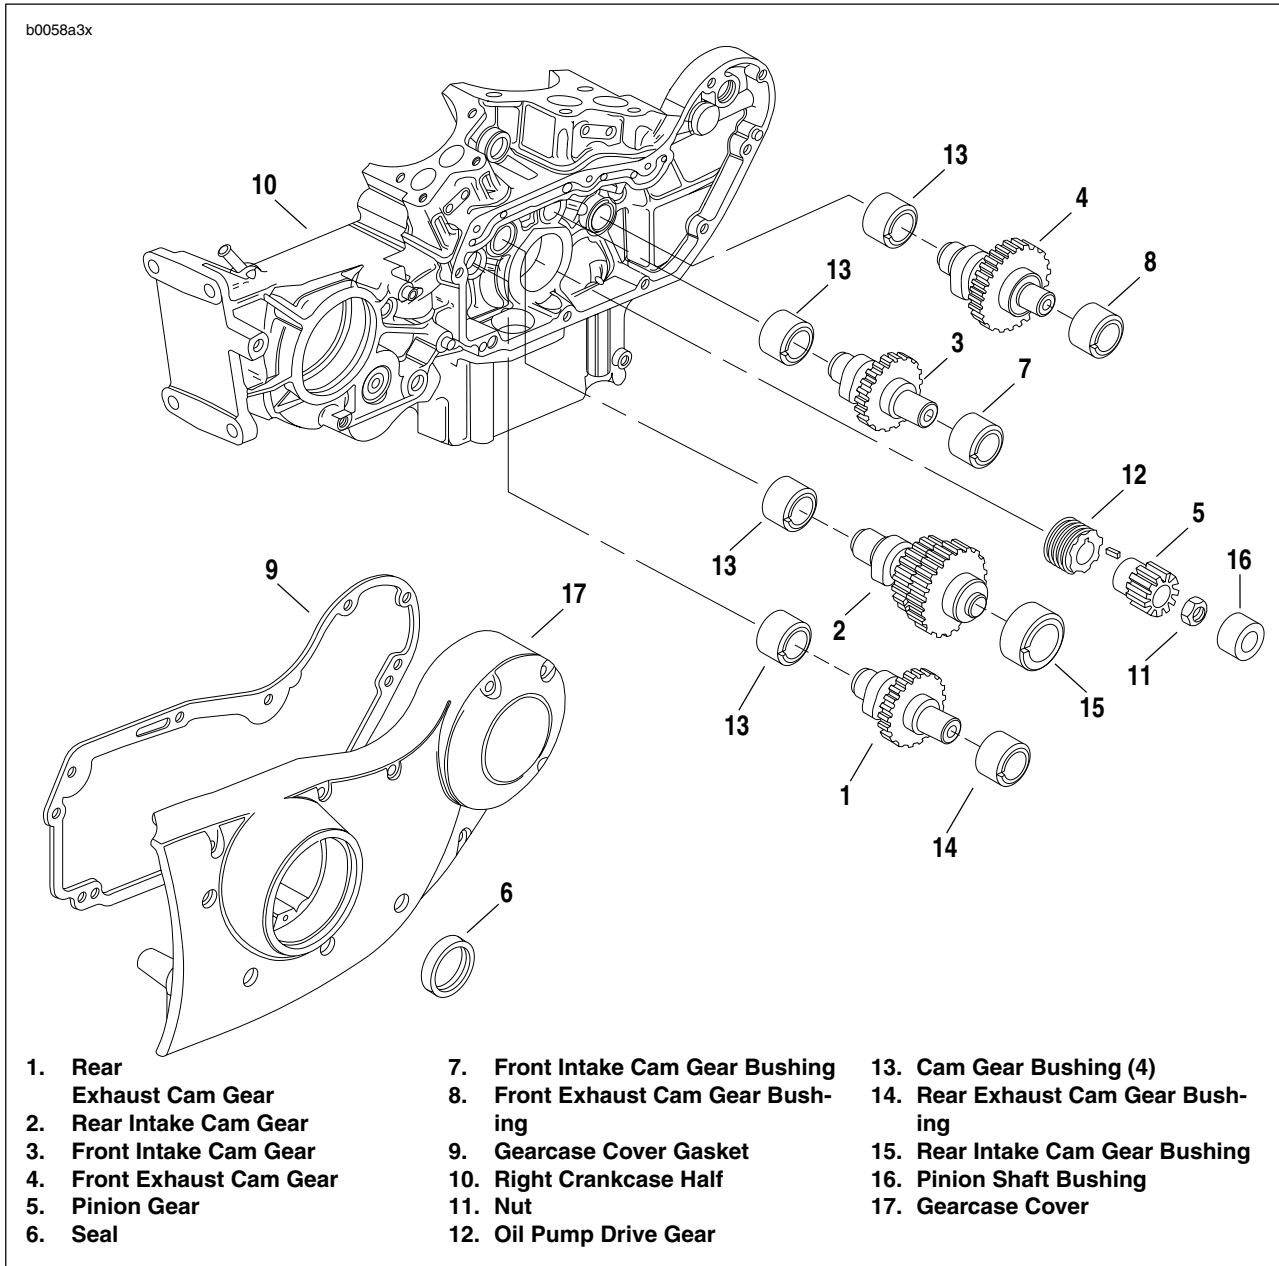

Figure 3-62. Gearcase and Valve Train Components
1. See Figure 3-62. Thoroughly clean area around gearcase cover (17) and lifters. Blow loose dirt from crankcase with compressed air.
7. Place a pan under gearcase to collect oil. Remove cover screws. Carefully remove gearcase cover. Discard old gasket (9).
1. See Figure 3-62. Bushings (7, 8, 13, 14, 15 and 16) are press fit in gearcase cover (17) and crankcase. Inspect each bushing against its corresponding cam gear shaft or pinion gear shaft. See Table 3-10.
1. See Figure 3-62. Using an arbor press, install each bushing (7, 8 and 14) in its gearcase cover (17) bore so that bushing shoulder contacts cover boss. Orient each bushing so the oiling slot is at the 9 o'clock position within the gearcase cover bore.
1. See Figure 3-62. Rear intake cam gear bushing (15) must be installed in its gearcase cover (17) bore using an arbor press. You will need to orient the bushing in a specific position of rotation within the cover bore, and will need to drill a lubrication hole in the bushing, according to the following procedures.
1. See Figure 3-62. Using an arbor press, install pinion shaft bushing (16) in its gearcase cover (17) so that bushing is flush with cover boss. There is no need to orient this particular bushing in any specific position of rotation within the gearcase cover bore.
1. See Figure 3-62. Bushings (7, 8 and 14) to be reamed must be installed in gearcase cover (17) as described in BUSHING INSTALLATION. Attach gearcase cover to right crankcase half (10), which has been disassembled from left crankcase half, securing with a minimum of three mounting screws.
2. Insert a standard 11/16 in. diameter reamer through the previously reamed cam gear bushing (13) in right crankcase half, which is in line with one of the bushings to be reamed in gearcase cover.
1. See Figure 3-62. Rear intake cam gear bushing (15) must be installed in gearcase cover (17) as described in BUSHING INSTALLATION.
2. Identify the previously reamed rear intake cam gear bushing (13) in right crankcase half (10), which has been disassembled from left crankcase half. Insert the shank end of REAR INTAKE CAMSHAFT BUSHING REAMER (Part No. HD-94803-67) through gearcase side of this bushing.
1. See Figure 3-62. Pinion shaft bushing (16) must be installed in gearcase cover (17) as described in BUSHING INSTALLATION. Attach gearcase cover to right crankcase half (10), which has been disassembled from left crankcase half, securing with a minimum of three mounting screws.